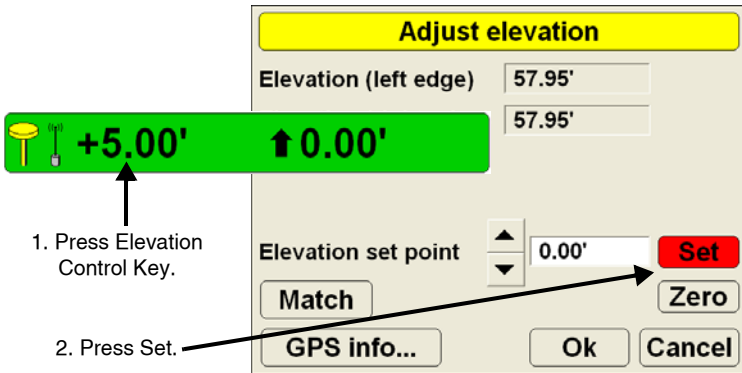

Figure 5-15. Press Elevation Control Key then Set
1. On the 3DMC Main Screen, press the **Elevation Control** key to display the *Adjust elevation* dialog box (Figure 5-15).